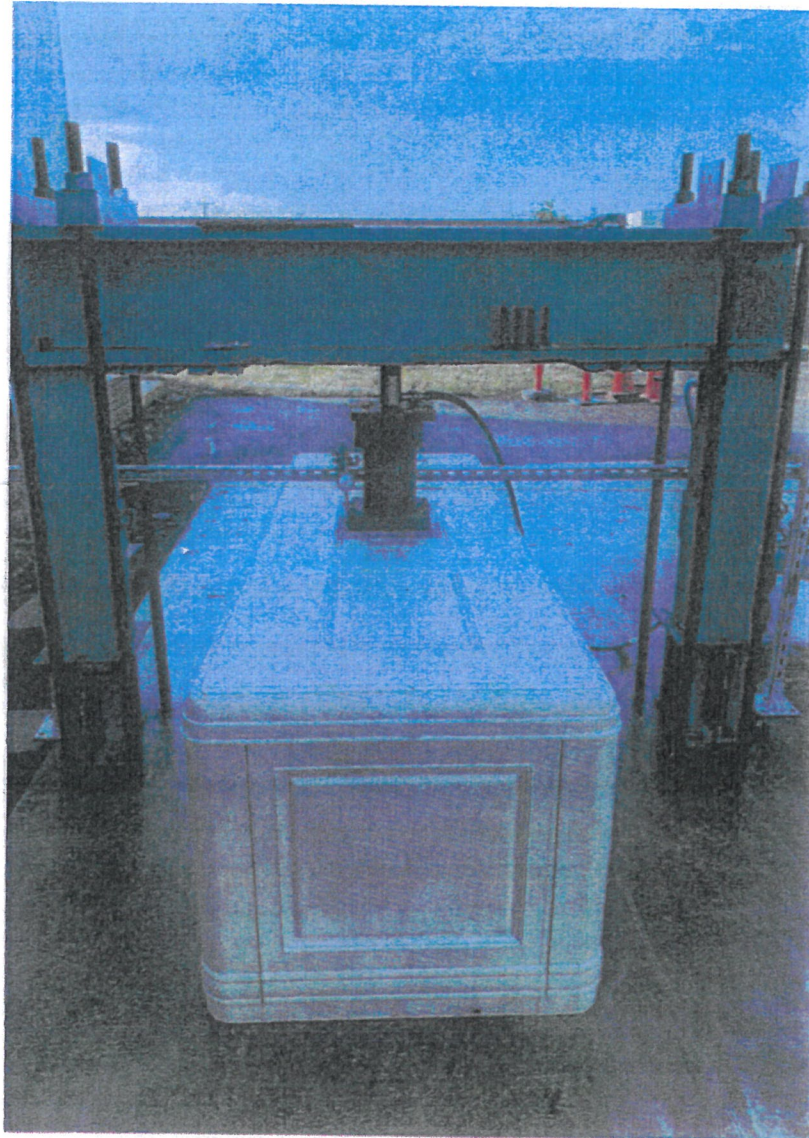
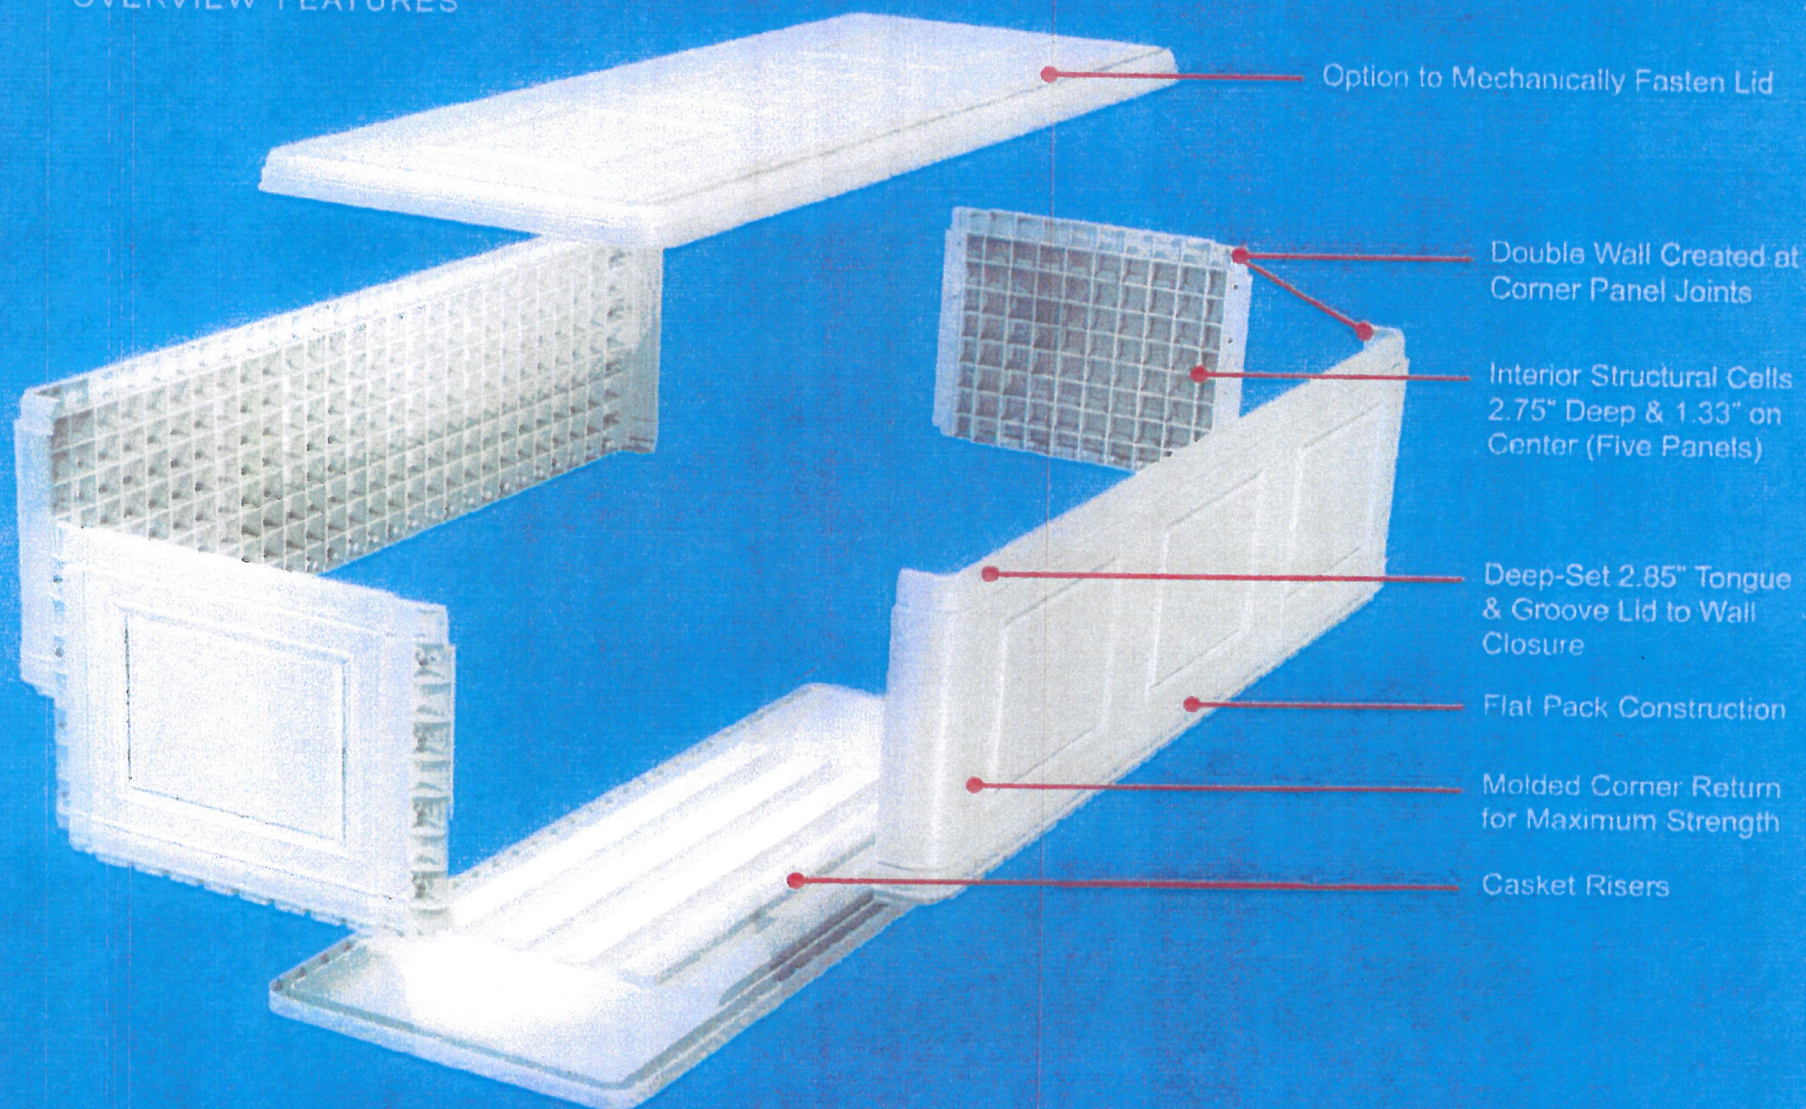

Figure 1 – Center Load Test Setup Photograph 1
Figure 3 – Maximum Load Test Setup
As indicated, the performance center load test was performed in accordance with the NCBVA test requirements. A preload pressure of approximately 500 pounds was applied to a one square foot steel plate with a hydraulic ram reacting off an independent steel frame. Photographs of the center load test load setup are shown in in Figures 1 and 2. The preload was maintained for a duration of 1 minute and then the vault was loaded in 500 pound increments over a duration of 30 seconds. Once each approximately 500 pound load increment was reached the load was held for a duration of one minute. Per the procedure for the concrete vault the test the test is to be stopped when either the lid deflection exceeds ½-inch or if any other surface deflects more than ¼-inch. In addition, we indicated there is no written test procedure for the maximum load testing for this type of burial vault. In order to try to replicate the service conditions of the burial vault the vault was confined with a wood box. A photograph of the test load setup is shown in Figure 3. Sand bags were placed on the top of the vault and a steel H beam with a width of about 4 inches with (3) 12 inch long by 8-1/4 inch wide plates at the ends and middle of the beam was placed on the sandbags in order to provide uniform loading on the top of the vault for the maximum load testing. In both cases the vault and confining box were placed in our test apparatus located at 2811 Teagarden Street in San Leandro. We then utilized a 12-ton ram for the center load test and a 30-ton hydraulic ram for the maximum load test both calibrated with a 6-inch, 10,000 psi McDaniel Controls, Inc. pressure gauge placed at the center of the vault and plate/beam. Our test apparatus consisting of a reaction frame was utilized with the hydraulic ram setup to load the vault. The test setup and apparatus is shown in Figures 1, 2, and 3 for both tests.